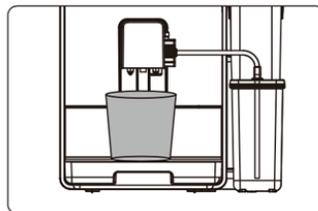

Fig. 5
Switch on the coffee machine. Place the beverage container under the coffee spout (2) and adjust its height to avoid splashing. Check that the milk system and the milk intake tube are correctly positioned (Fig. 5). Check that there is enough water in the bean container (5) and beans in the bean container (8).